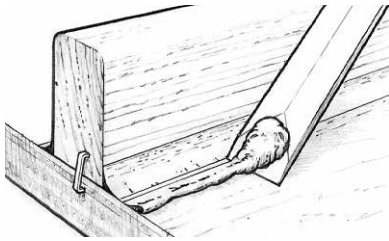

Figure 14 Clean up the excess epoxy outside of the fillet margin.
3. Clean up the remaining excess material outside of the margin by using a mixing stick or a putty knife (Figure 14). Fiberglass cloth or tape may be applied over the fillet area before the fillet has cured (or after the fillet is cured and sanded).